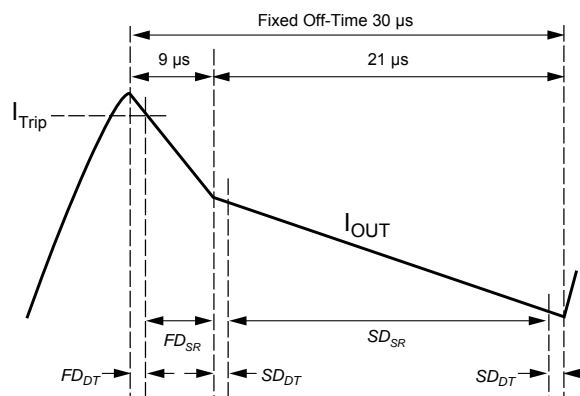

Figure 2. Mixed Decay Mode Operation
**Mixed Decay Operation** The stepper driver operates in mixed decay mode. Referring to figure 2, as the trip point is reached, the device goes into fast decay mode for 30.1% of the fixed off-time period. After this fast decay portion,  $t_{FD}$ , the device switches to slow decay mode for the remainder of the off-time. The DC driver decay mode is determined by the MODE pin. During transitions from fast decay to slow decay, the drivers are forced off for approximately 600 ns. This feature is added to prevent shoot-through in the bridge. As shown in figure 2, during this “dead time” portion, synchronous rectification is not active, and the device operates in fast decay and slow decay only.